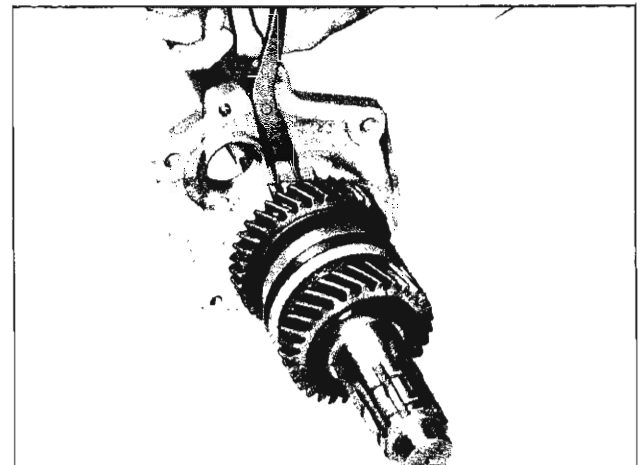

Fig. 13M—Removing Rear Bearing Retainer
16. Spread rear bearing retainer snap ring and press mainshaft out of the retainer (fig. 13M).
9. Install the rear bearing retainer (fig. 13M). Spread the snap ring in the plate to allow the snap ring to drop around the rear bearing and press on the end of the mainshaft until the snap ring engages the groove in the rear bearing.